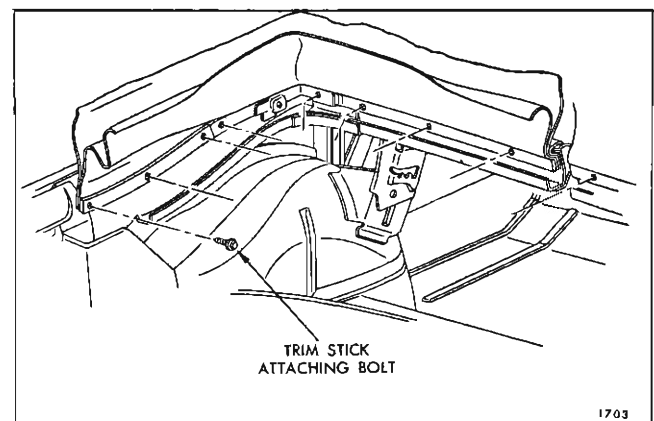

Fig. 2-I-38 — Trim Stick Attachment
3. Detach folding top compartment bag from rear seat back panel, thus exposing rear quarter and rear trim stick attaching bolts (Fig. 2I38). Forward end of top compartment bag may be tied or wired to center roof bow to provide ready access to attaching bolts.
4. Remove attaching bolts securing rear quarter trim sticks to rear quarter inner panel (Fig. 2I38).